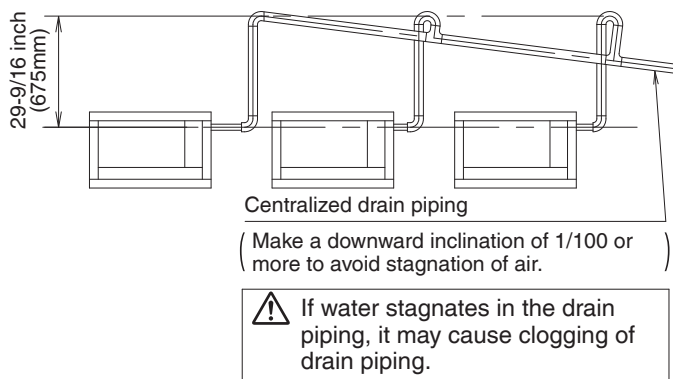

Fig. 16
- To avoid the attached drain hose (2) getting excessive force, do not bend nor twist it. It may cause water leakage.
- In case of centralized drain piping, carry out piping work according to the procedure shown in the following **Fig. 16**.